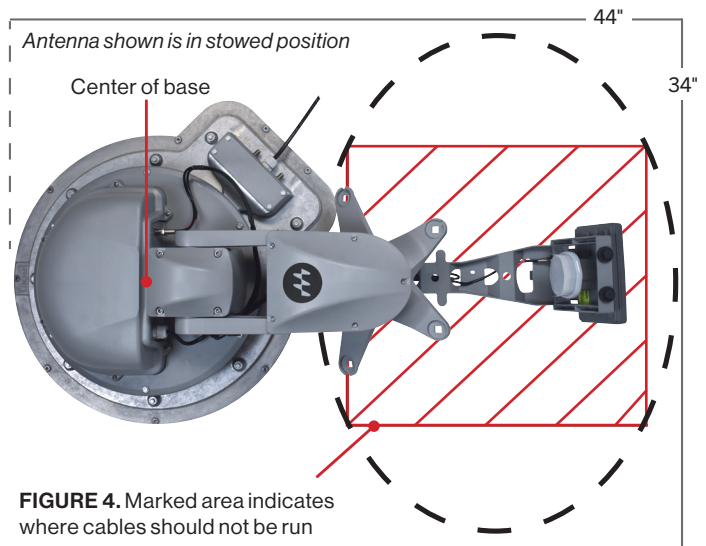

FIGURE 4. Marked area indicates where cables should not be run
- c. Has a minimum roof space of 44" x 34" for the antenna (figure 4).
5. Wires should not be run through the striped area (see figure 4). Anything in the striped area will interfere with the operation of the Trav'ler Pro antenna and may cause damage to the object or to the antenna.